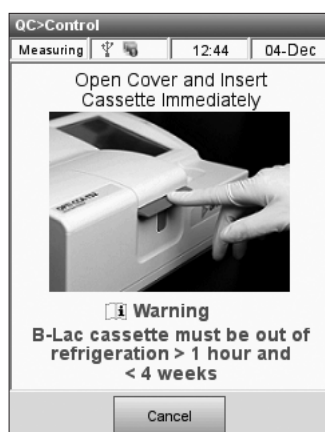

Fig. 4-19 B-Lac Open Cover
- Open the sample chamber cover by pressing down on the center of the red latch (Fig. 4-19).
NOTE: For B-Lac cassettes, out-of-storage warnings will be displayed (Figs. 4-19 - 4-21). This function is enabled by default and can be disabled in the System>Setup menu (see Section 3.2.2.2.)